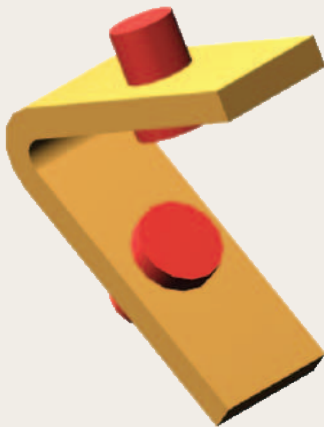
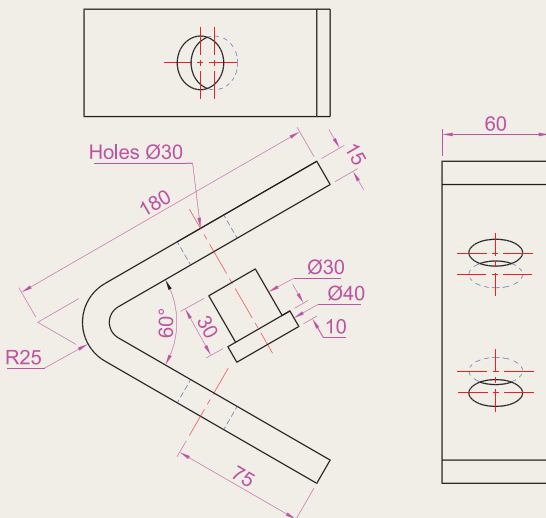

Fig. 17.33 Exercise 1 – a rendering
Fig. 17.34 Exercise 1 – details of shapes and sizes
- Figure 17.33 shows a rendering of a two-view projection of an angle bracket in which two pins are placed in holes in each of the arms of the bracket. Figure 17.34 shows a two-view projection of the bracket. Construct a 3D model of the bracket and its pins. Add lighting to the scene and materials to the parts of the model and render.